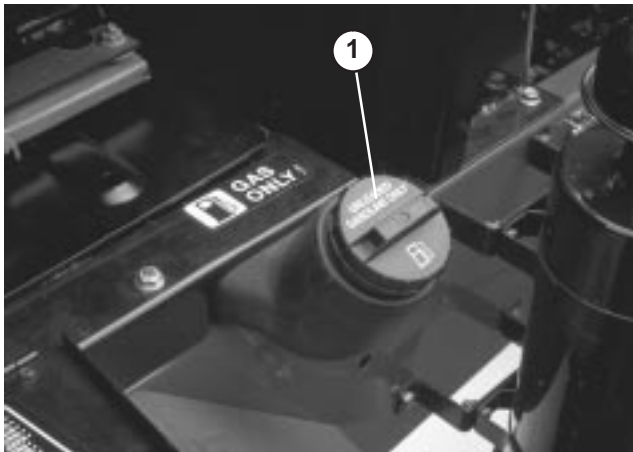

Figure 18
1. Clean area around fuel tank cap (Fig. 18).